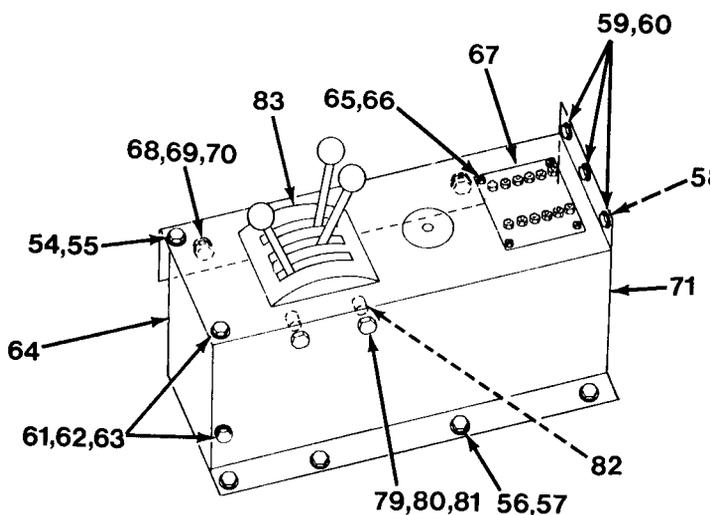

Figure 17-8
22. Remove two capscrews and nuts (54) and washers (55, Figure 17-8).
32. Remove three cotter pins (77) and pins (78) from cable terminal.
33. Remove four capscrews (79), lockwashers (80), washer (81) and spacer (82) and remove shifter (83, Figure 17-8).